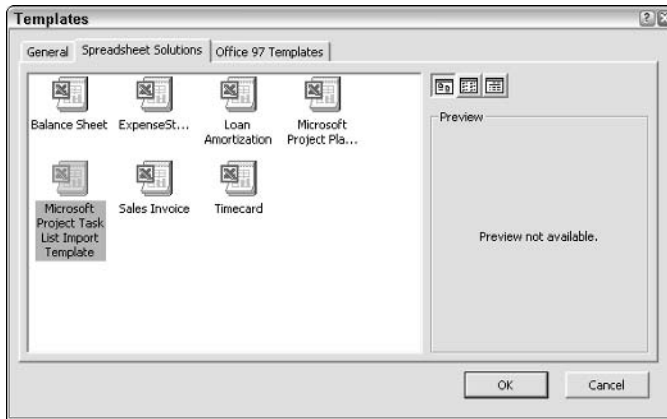

Figure 26-21: You find the Excel template on the Spreadsheet Solutions tab of the Templates dialog box.
2. From the New Workbook task pane, click General Templates. Excel displays the Templates dialog box, as shown in Figure 26-21.